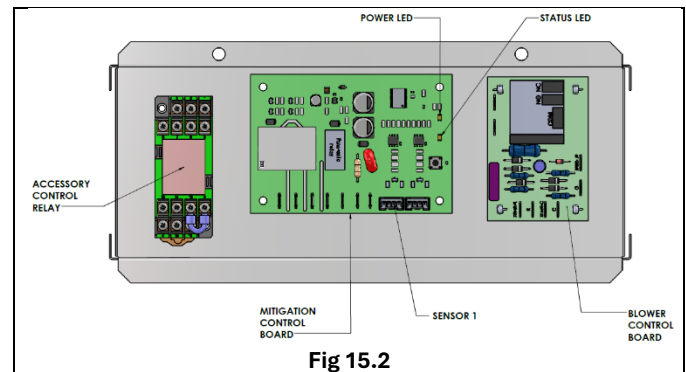

Fig 15.2
- Locate the sensor cable connected to the "SENSOR1" port on the mitigation control board. (See Figure 15.2). Remove the sensor cable by squeezing the tab on the connector and pulling away from the board to disconnect the sensor.